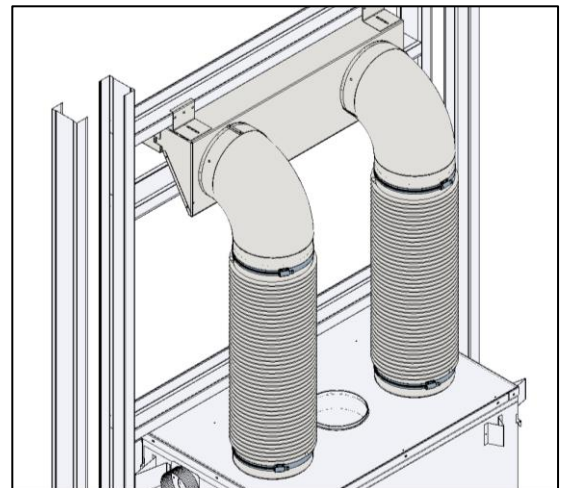

Figure 3-32: The Two Bottom Worm Gear Clamps Tightened
9. Tighten the worm gear clamps to secure the assembly on top of the fireplace (Figure 3-32).